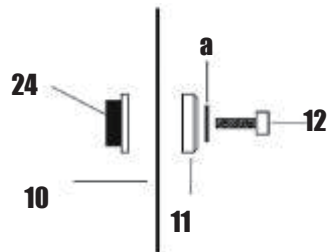

Fig. A3
- Take care that the mounting positions of the inner flange and outer flange are correct. (SEE Fig. A3)